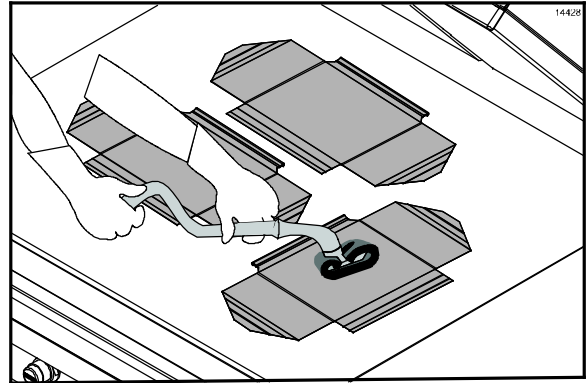

Figure 107
41. Place the upper platen release sheets flat on the lower grill surface. Gently clean both sides of the sheets with the Kay Grill Cleaning Pad Holder. (See Figure 107.)